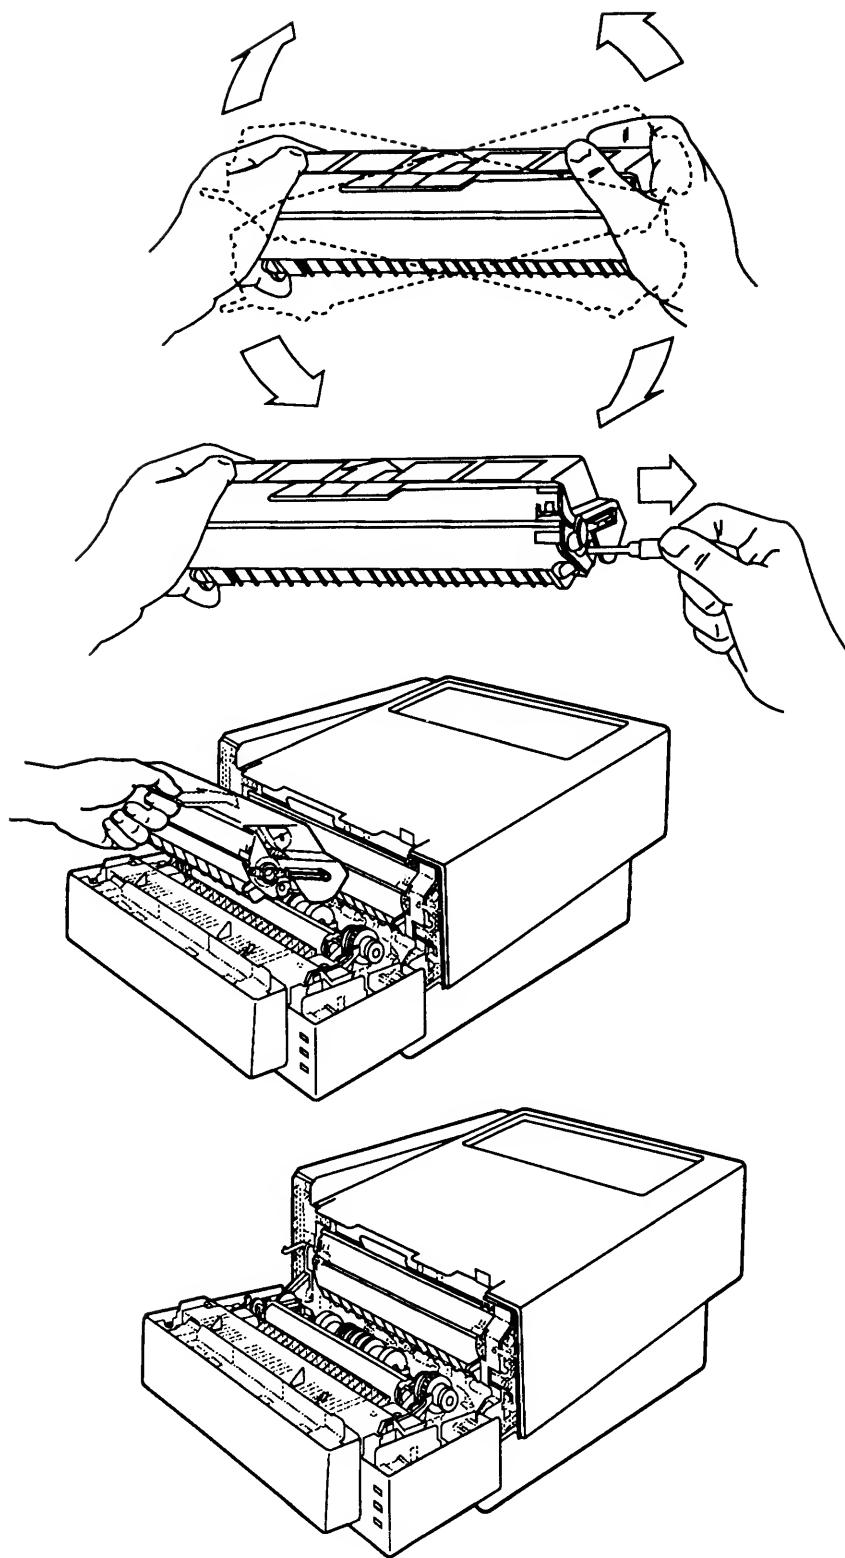

Figure 5-1 Replacing the Toner Cartridge
3. Hold the cartridge horizontally and slowly rock it from side to side to distribute the toner evenly (**Figure 5-1**).
4. Pull the tab located at one end of the toner cartridge to remove the tape (**Figure 5-1**).
5. Install the new toner cartridge and close the front access door (**Figure 5-1**).